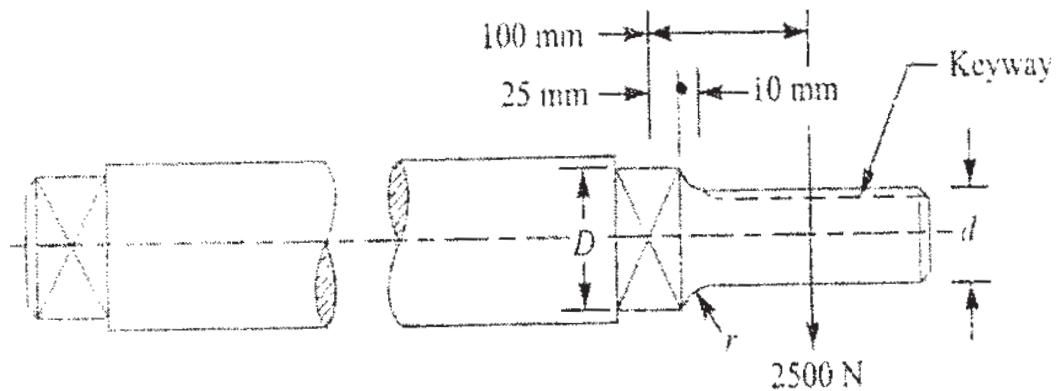

Figure 2
- b) A centrifugal blower rotates at 600rpm. A belt drive is used to connect the blower to a 15kW and 1750 rpm electric motor. The belt forces a torque of 250N-m and a force of 2500N on the shaft. Figure 2 shows the location of bearings, the steps in the shaft and the plane in which the resultant belt force and torque act. The ratio of the journal diameter to the overhung shaft diameter is 1.2 and the radius of the fillet is 1/10th of overhung shaft diameter. Find the shaft diameter, journal diameter and radius of fillet to have a factor of safety 3. The blower shaft is to be machined from hot rolled steel having the following values of stresses: